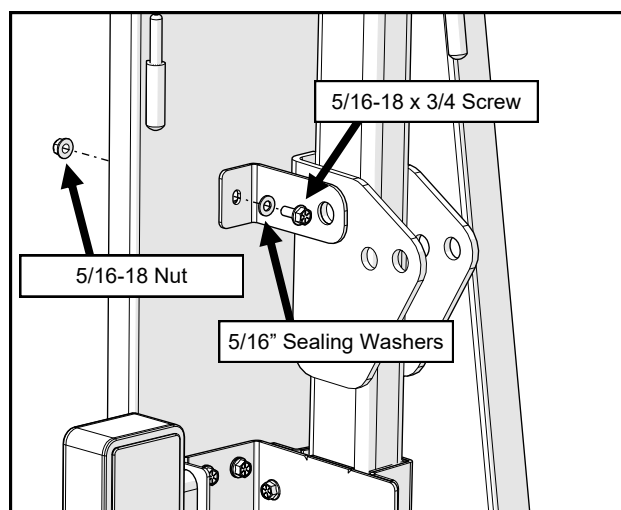

Fig. 4.3 (Loosely Secure ROPS Bracket)
- 4.3** Loosely secure the bracket to the rear leg with a sealing washer on the screw. See Figure 4.3. Do not tighten hardware.